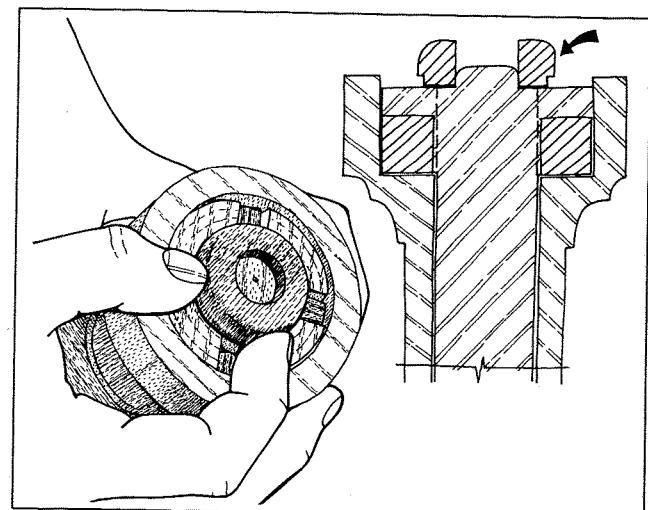
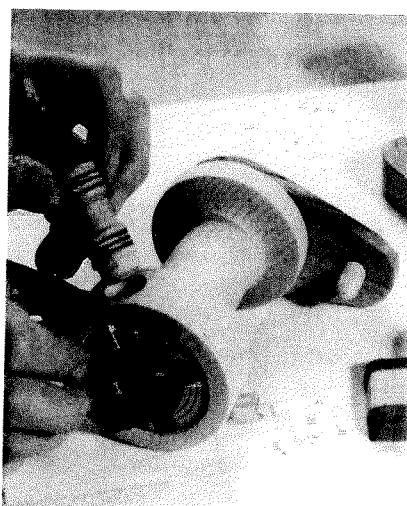

FIGURE 8-16
FIGURE 8-17
- 3** Set the gates in the slots, and hold them in place with the boss ring (Fig 8-16); set the pipes in their holes; and set the crank handle on the end of the shaft (Fig 8-17).